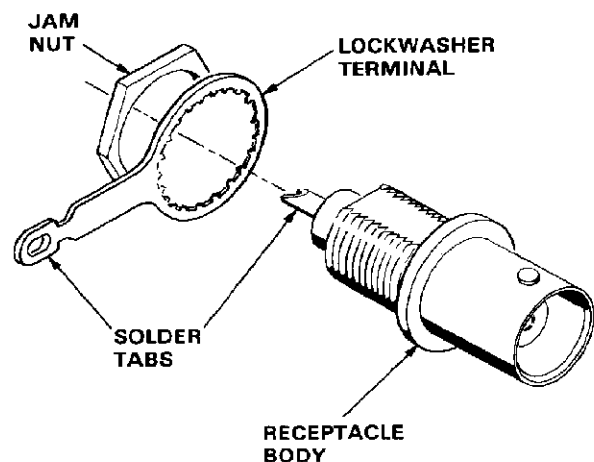

Fig. 3
3. ASSEMBLY PROCEDURE (Figure 3)